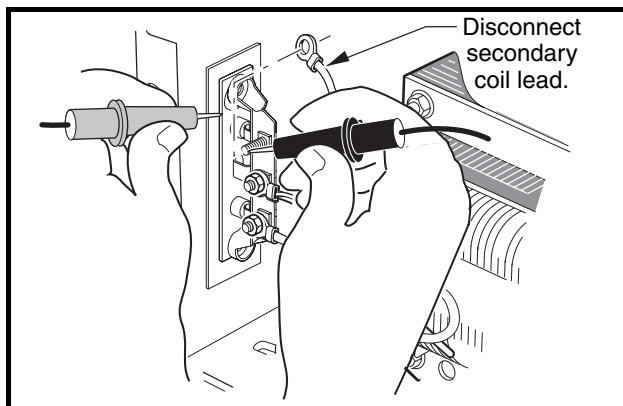

Figure 5-11 Diode Test
3. Disconnect one transformer secondary coil wire from the diode terminal (**Figure 5-11, Page 5-19**).
4. Using a low voltage continuity tester or multimeter set to the diode test function, connect the red (+) test probe to the diode mounting plate and the black (–) test probe to a diode terminal and note the reading (**Figure 5-11, Page 5-19**).